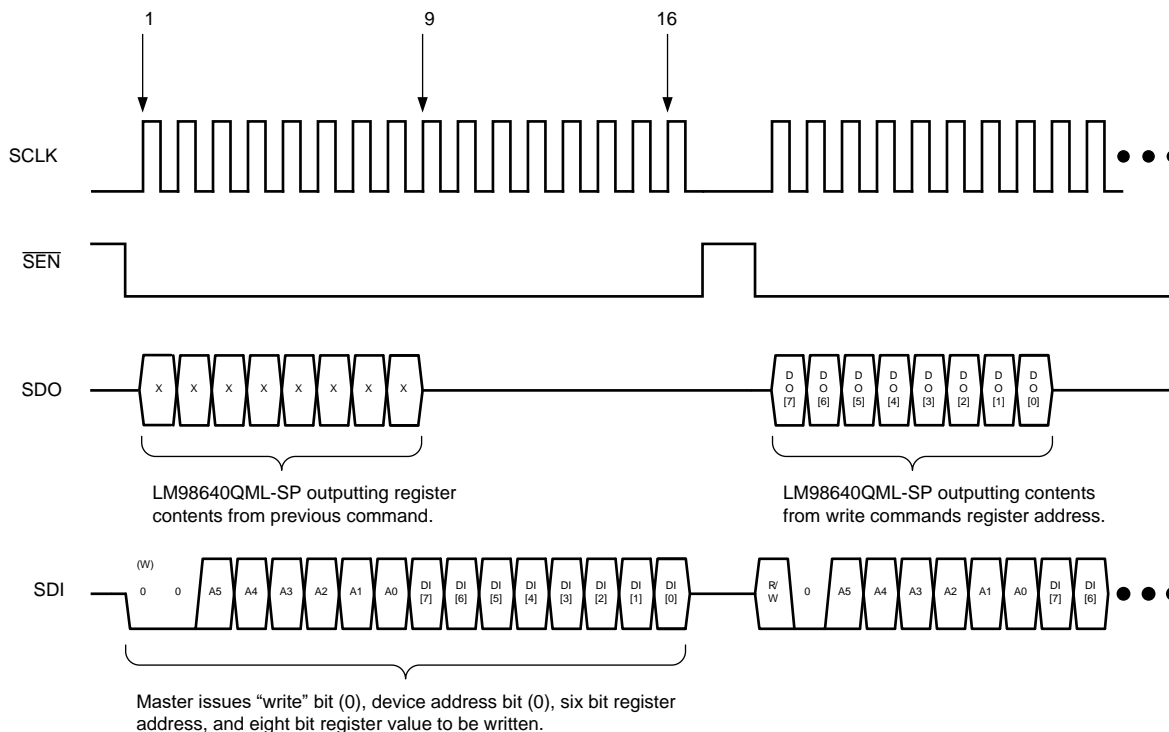

Figure 26. Four Wire Serial Write
To write to the serial registers using the four wire interface, the timing diagram shown in Figure 26 must be met. First, $\overline{\text{SEN}}$ is toggled low. At the rising edge of the first clock, the master should assume control of the SDI pin and begin issuing the write command. The write command is built of a "write" bit (0), device address bit (0), six bit register address, and eight bit register value to be written. SDI is clocked into the LM98640QML-SP at the rising edge of SCLK. The LM98640QML-SP assumes control of the SDO pin during the first eight clocks of the cycle. During this period, data is clocked out of the device at the rising edge of SCLK. The eight bit value clocked out is the contents of the previously addressed register, regardless if the previous command was a read or a write. When $\overline{\text{SEN}}$ toggles high, the register is written to, and the LM98640QML-SP now functions with this new data.